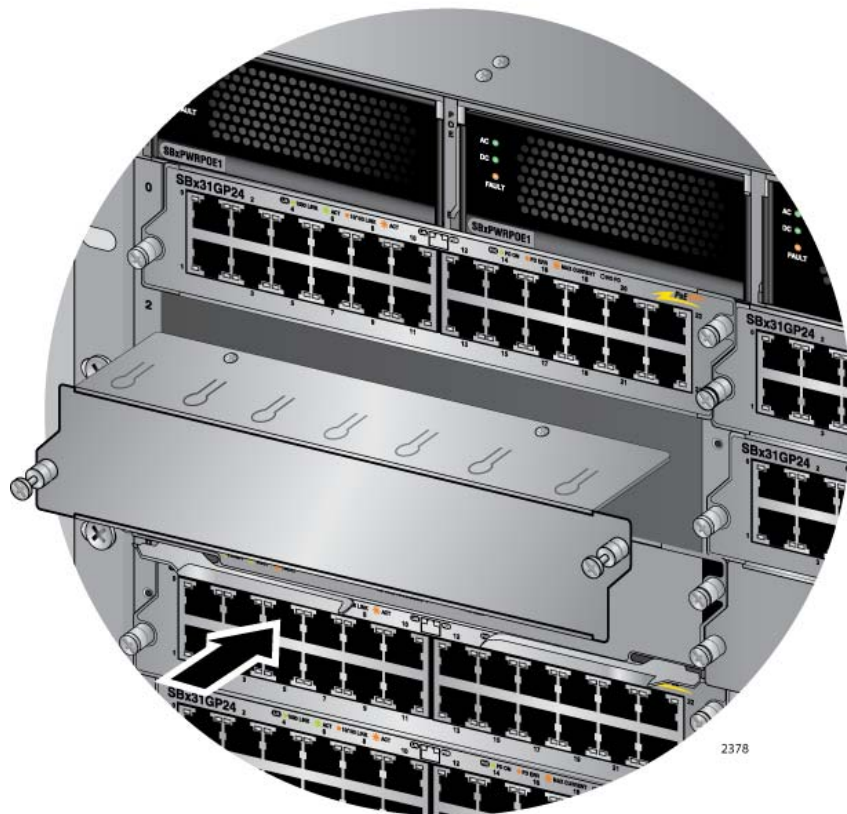

Figure 81. Installing a Blank Slot Cover
1. Position a blank slot cover over an unused slot, as shown in Figure 81.